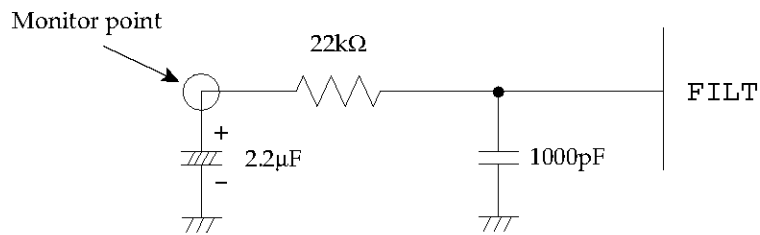

Figure 10 FILT Recommended Circuit
- Adjust the voltage of monitor point in figure 10 to  $1/2V_{DD}\pm 10\%$  by the LC oscillation constant 'L' or 'C' to lock the PLL circuit.